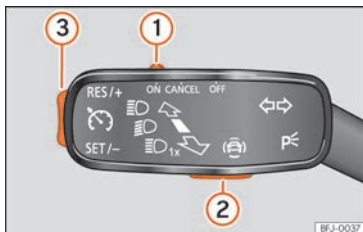

Fig. 175 On the turn signal lever: buttons to operate the speed limiter.
- Move control » **Fig. 175 ①** to position **ON** and press button **②**.
- While driving, press button » **Fig. 175 ③** in the area **SET/-**.
You can set the speed using button » **Fig. 175 ③**:
- Move control » **Fig. 175 ①** to position **OFF**.
If you want to temporarily deactivate the speed limiter, e.g. for overtaking, move the control » **Fig. 175 ①** to position **CANCEL** or press button **②**.
After overtaking, the speed limiter can be activated with the previously programmed speed by pressing button » **Fig. 175 ③** in the area **RES/+**.